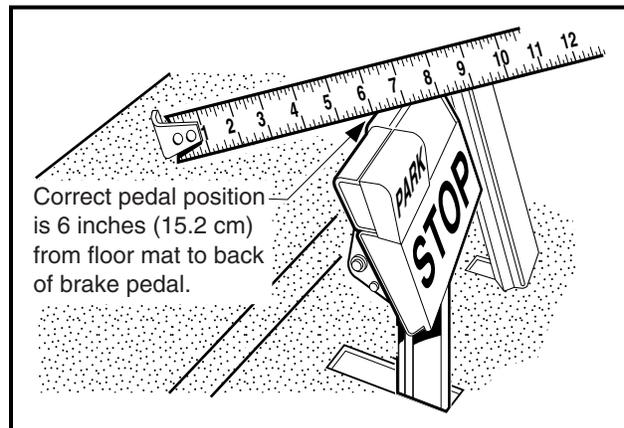

**Figure 5-12 Loosen Rear Brake Equalizer Rod Nuts**
- 2.2. To provide slack in the brake cables, loosen the equalizer retaining nuts (2 and 3) on the equalizer rods (1) (**Figure 5-12, Page 5-12**).